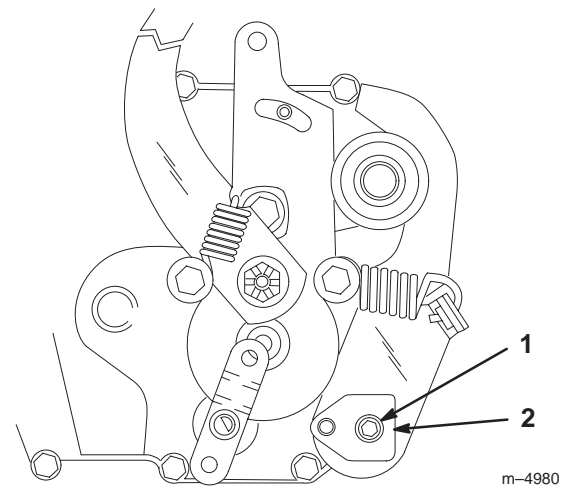

Figure 8
Note: To gain access to the adjusting puck (Fig. 8), it may be necessary to remove the tire.
5. Loosen the adjusting puck screw (Fig. 8).
7. Rotate the adjusting puck (Fig. 8) in both directions until you find the midpoint where the axle no longer rotates forward or reverse.